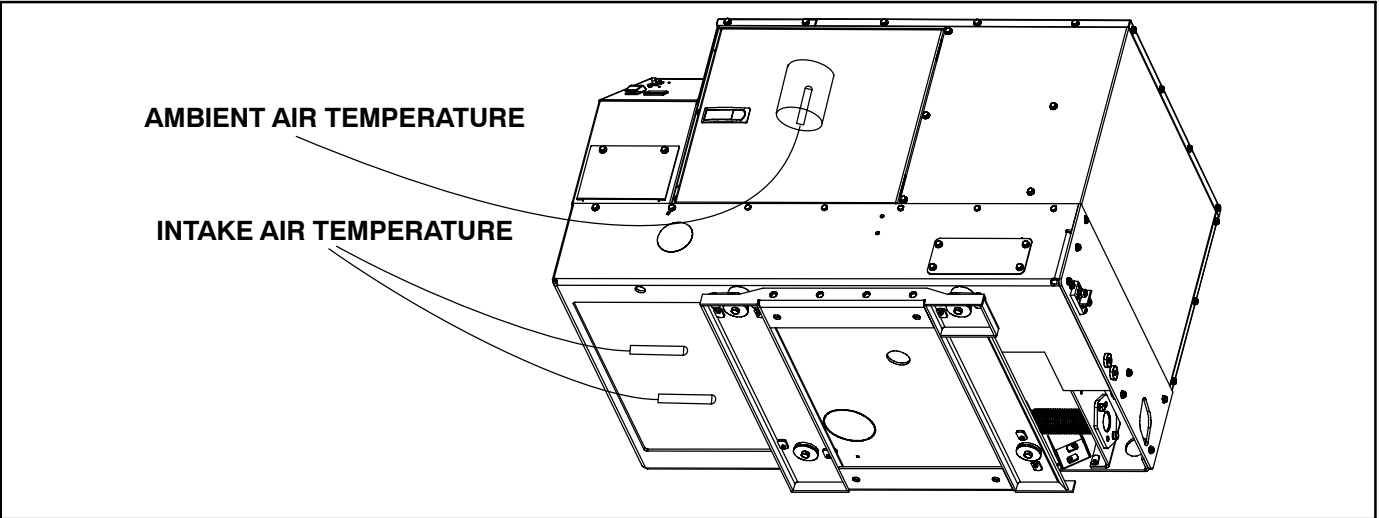

FIGURE 6-1. THERMOCOUPLE LOCATIONS
5. Measure genset intake air temperature with one or two thermocouples tied about 1 inch away from the face of the radiator in the intake air opening (Figure 6-1). Make sure the thermocouples don't touch the radiator.